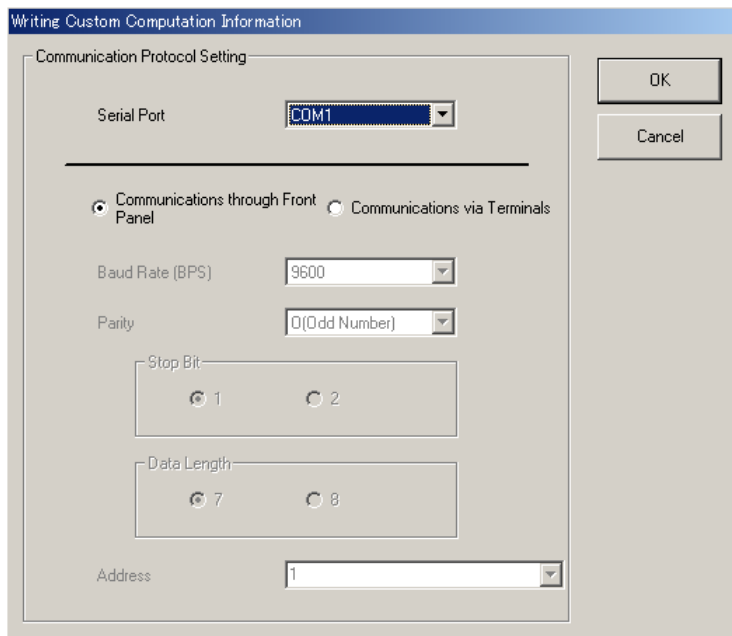

Figure 8.2.1 [Writing Custom Computation Information] Dialog Box
- (1) From the tool menus, click <Communication>, then <Download to Controller...>. The [Writing Custom Computation Information] dialog box (Figure 8.2.1) appears.
- (2) In the dialog box, click the <Communications through Front Panel> option button.
- (3) From the <Serial Port> drop-down list box, choose either COM1 to COM4.
- (4) Click the <OK> button.
- (5) A message appears, informing that the reading of custom-computation data is complete.
- (6) When reading is complete, the [Custom Computation Configuration Menu] dialog box appears.